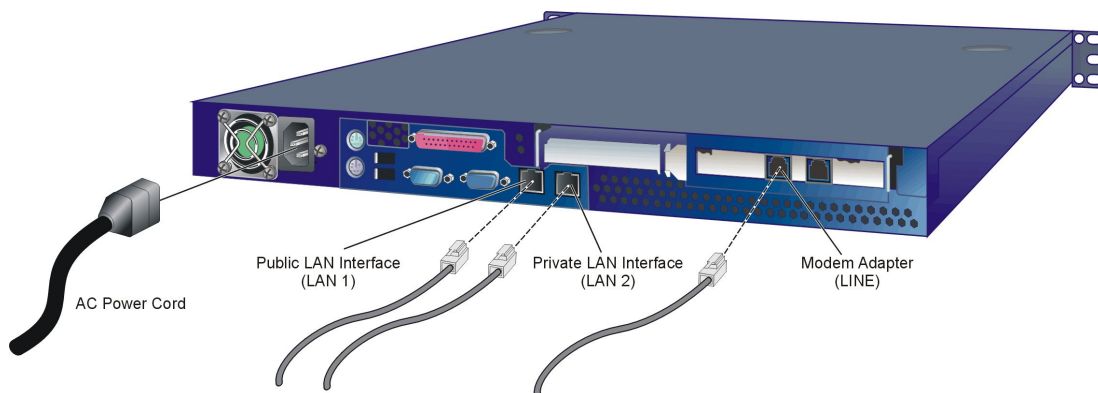

Figure 2.7. HAFM Appliance Connections
- a. As shown in Figure 2-7, connect one end of a customer-supplied Ethernet patch cable to the left RJ-45 adapter (LAN 1) at the rear of the appliance.
- a. As shown in Figure 2-7, connect one end of the Ethernet patch cable (supplied with the HAFM appliance) to the right RJ-45 adapter (LAN 2) at the rear of the appliance.
3. As shown in Figure 2-7, connect the phone cord to the left RJ-11 adapter (LINE) at the rear of the appliance and to a facility telephone connection.
1. As shown in Figure 2-7, connect the AC power cord to the appliance and to a facility power source or rack power strip that provides single-phase, 90 to 264 VAC current. When the power cord is connected, the appliance powers on and performs power-on self-tests (POSTs). During POSTs: